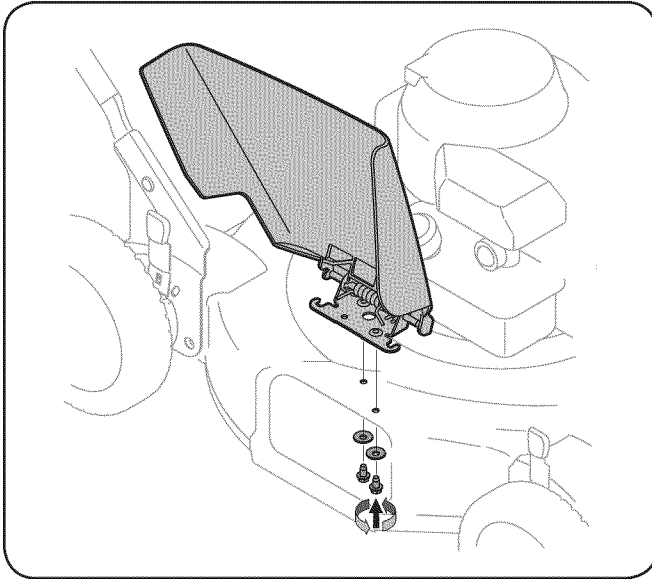

Figure 3-8
2. Secure with self-tapping screws and bell washers from underside of the deck and up through the chute deflector. See Fig. 3-8.